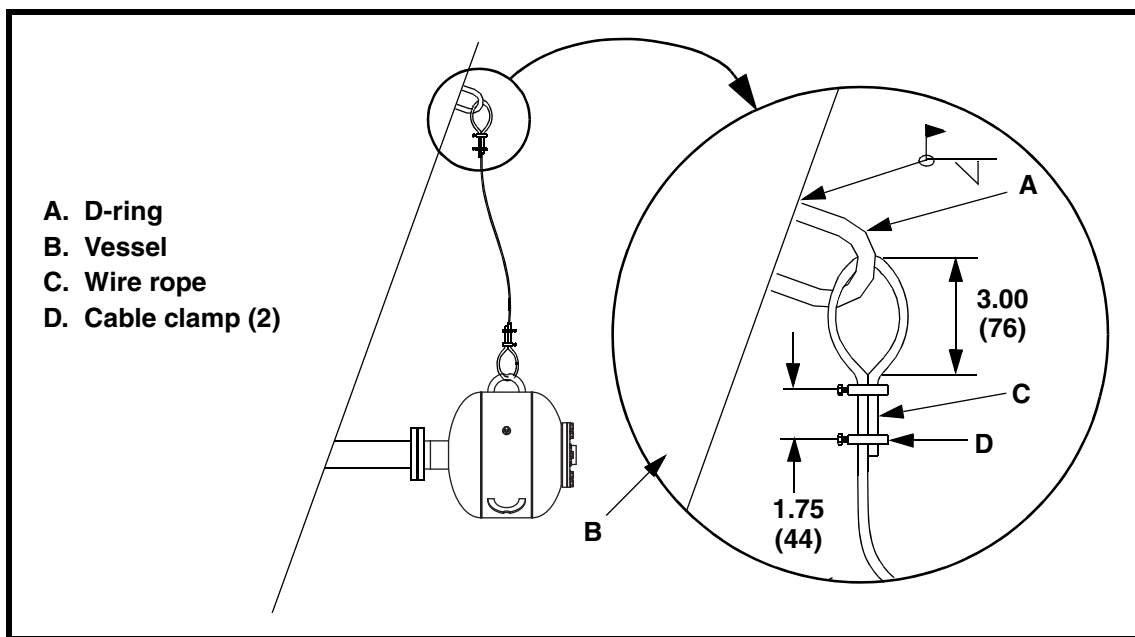

Figure 14. Installing Restraining Cable
1. Weld D-ring (A, Figure 14) onto storage vessel (B) with 1/4-in. (6-mm) field weld.